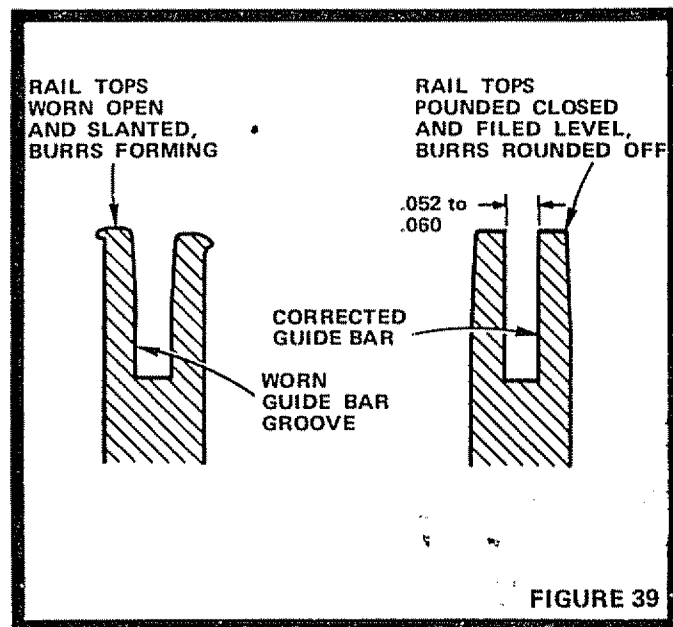

FIGURE 39
1. Chain Cutter and Link bottoms riding on Guide Bar Rails will normally roll some Bar Material to the outside of the Rails especially in actual cutting area of Guide Bar. These burrs should be removed as they form or they will chip away during use taking more Bar material with them. Check Bar for burrs at each Chain sharpening (Fig. 39).
- a. File uneven Rail top wear flat, perpendicular to Guide Bar (Fig. 39).
- b. Hammer worn, open Rails closer together to restore correct Chain Groove-between .052 and .060 inch (Fig. 39). NOTE: MAKE SURE CHAIN RUNS EASILY IN CORRECTED CHAIN GROOVE BEFORE REASSEMBLY.